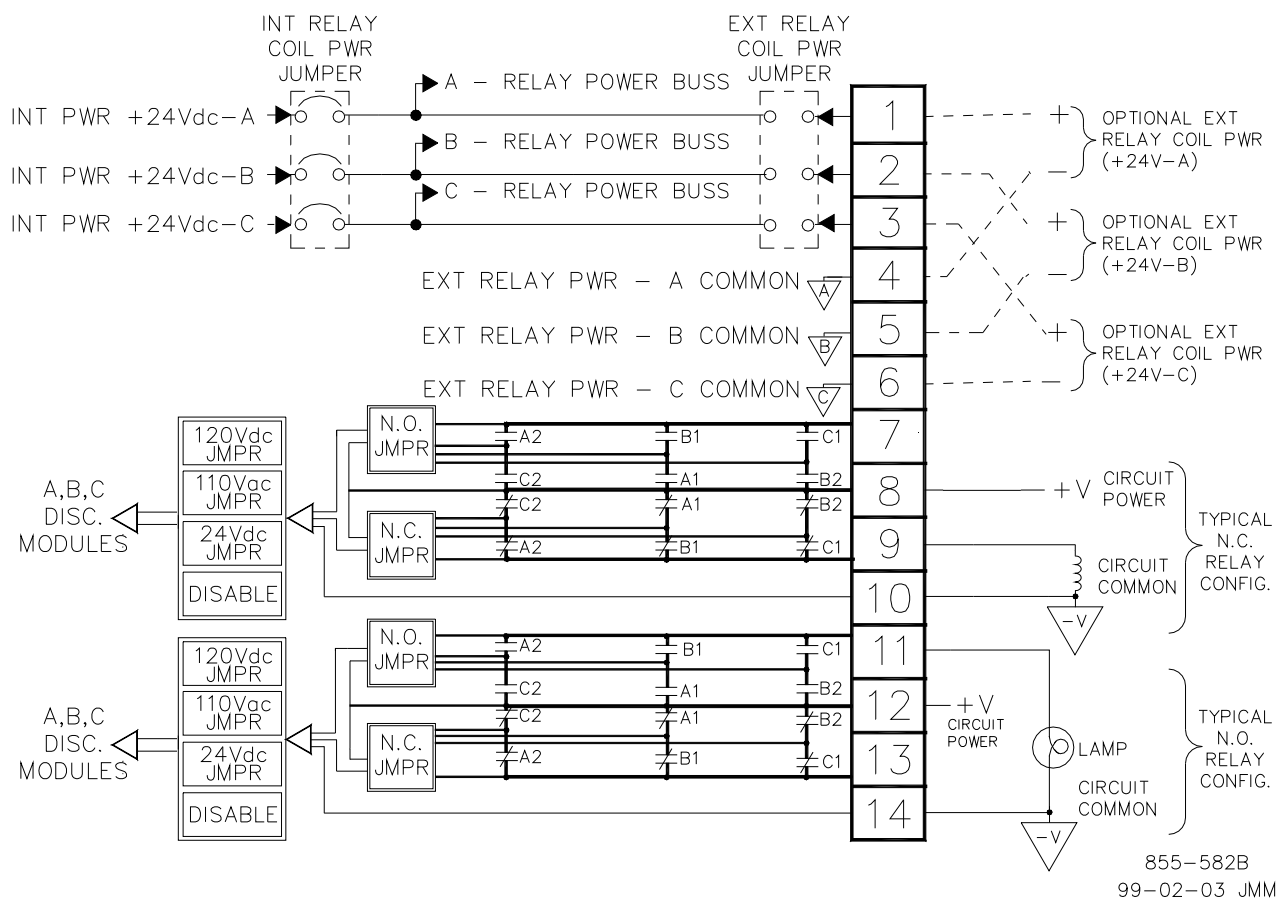

Figure 4-19. Example Relay Output Wiring Diagram
- Refer to Figure 4-19 and **Appendix A** for relay output wiring connections to the FTMs.